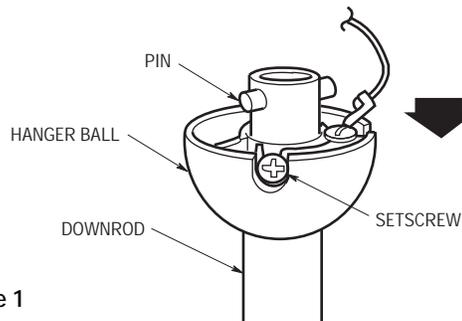

Figure 1
2. Obtain the hanger ball/downrod assembly and remove the hanger ball by loosening the setscrew in the hanger ball until the ball falls freely down the downrod (Figure 1). Remove the pin from the downrod, then remove the hanger ball. Retain the pin and hanger ball for reinstallation in Step 11.